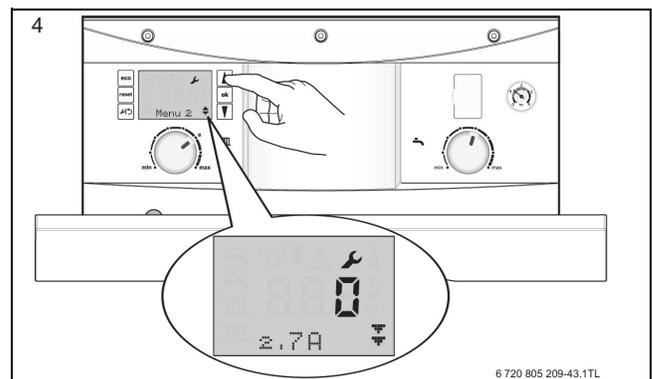

Fig. 65
4. Select the desired menu option using the arrow buttons (refer to figure 65) and press the OK button, the option will flash.